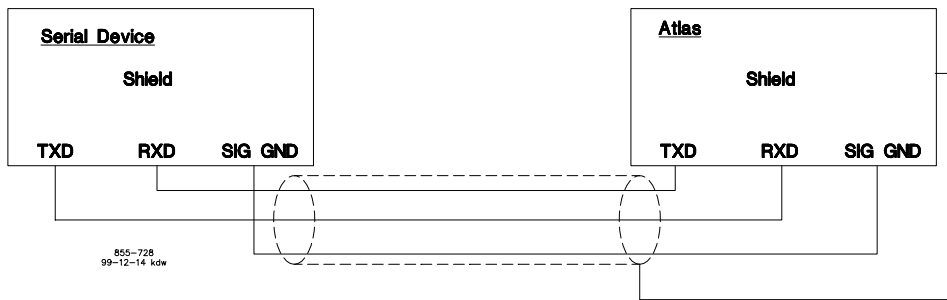

Figure 5-17. Wiring Example–RS-232 Interface to the SmartCore Board
- Refer to Figure 5-17 for RS-232 wiring. The transmit data (TXD), receive data (RXD), and signal ground (SIG GND) must be properly connected as shown. In addition the shield (SHLD) should be connected in at least one location.